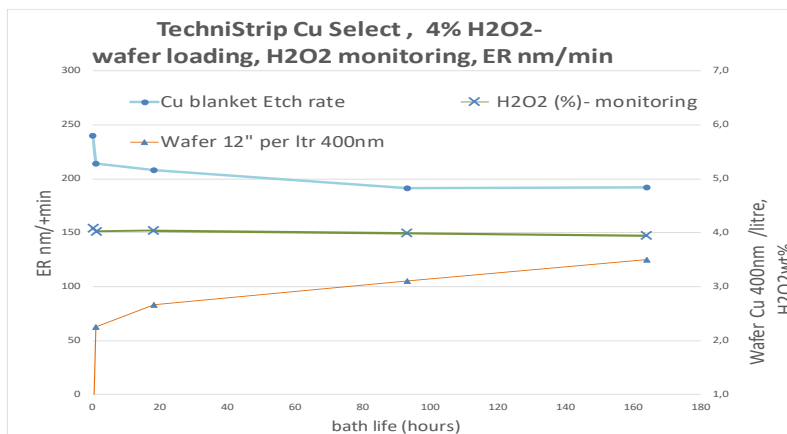

Figure 3- ER stability, H2O2% monitoring, wafer loading
- Interestingly, it was observed that the ER profile (Figures 3) is exhibiting a very
Notably, the Cu etching rate was increased by 30% when dispense through a spray nozzle compared to immersion trial under agitation, without compromising wafer-to-wafer ER repeatability letting foresee very reliable and high throughput using cassette batch spray process under 2 mins process. Figure 3 also presents the stable etch rate measurement in nm/min over an experiment included a large number of wafers over 24 hours trials. Additionally, experiments over 72 hours and hundreds of wafers showed a merger 19% ER drop over the trials, confirming the etchant stability in terms of metal content and process time compared to standard H2O2 based etchant which could be offset by applying EPD and/or online monitoring.